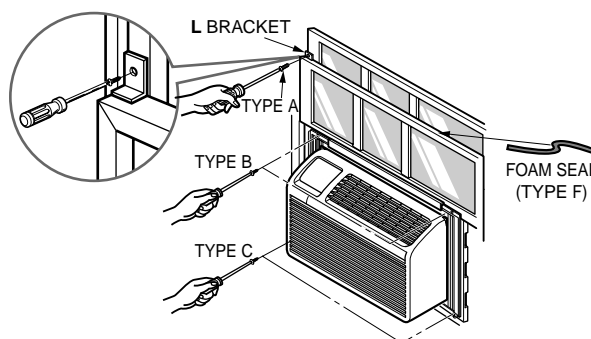

Figure 10
Extend the guide panels (TYPE G) to fill the window opening using 2 screws (TYPE B), 2 screws (TYPE C) to secure them as shown in Figure. 10.
- Cut the sash seal (TYPE F) to the window width. Stuff the sash seal between the glass and the window to prevent air and insects from getting into the room, as shown in Figure. 10.
- Fasten the L bracket using a (TYPE A) screw, as shown in Figure. 10.